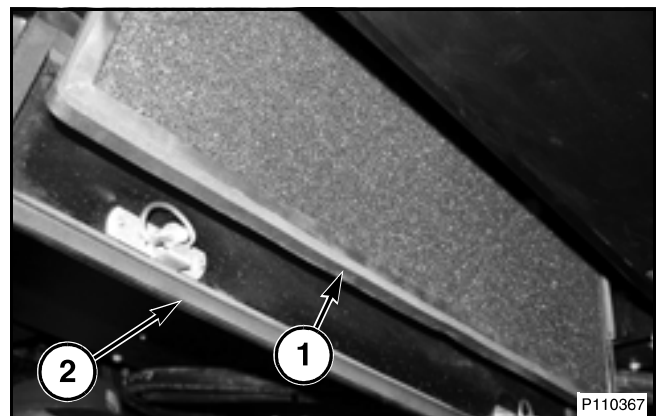

FIG. 81
FIG. 81: The secondary air filter (1) is located under the cab floor in the pressurizer housing. Remove the secondary air filter by turning the knobs on the filter cover (2) counter-clockwise and opening the cover. Pull the secondary air filter down and out of the pressurizer.